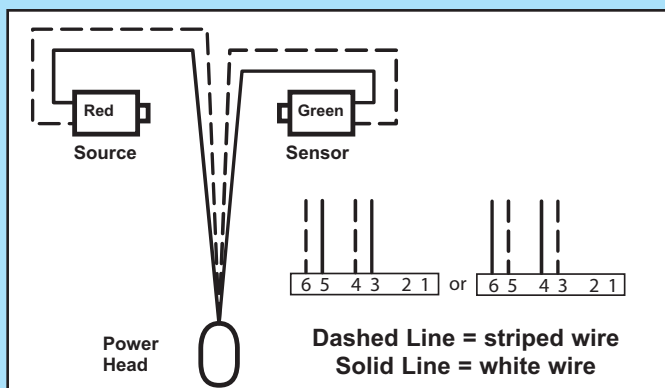

FIG. 4-5a Source and sensor wiring methods.
- Route wire from Safety Beam sensors to power head using method shown in (Fig. 4-5a).